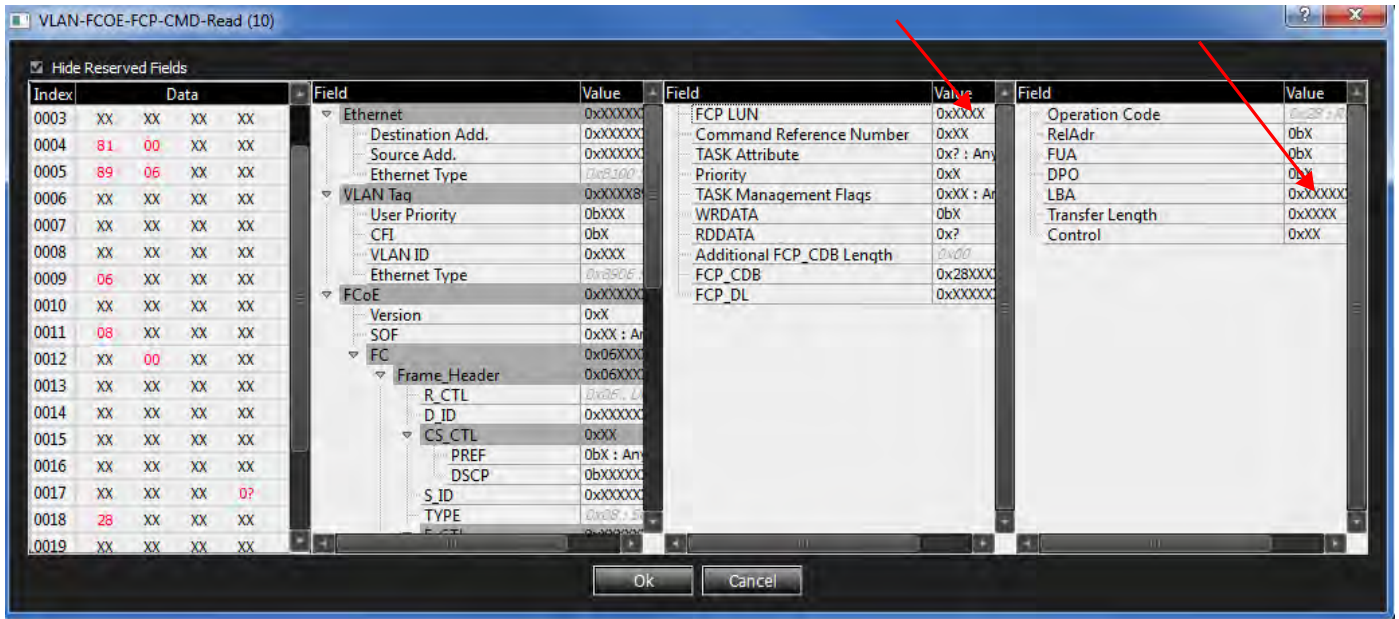

Figure 5.147: Find LUNs and LBAs 2
4. Select the command, double-click or right-click, and select **Match Fields**. The following dialog displays (see Figure 5.147).